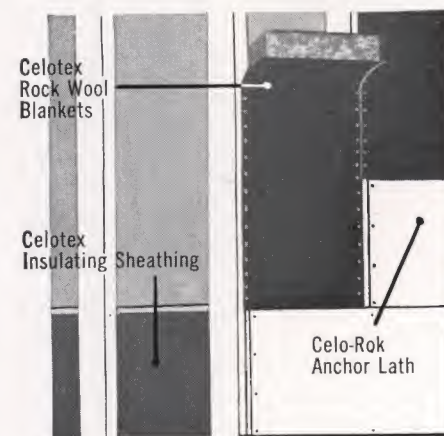

Fig. 2
2. For additional insulation, use Celotex Insulating Sheathing *plus* Celotex Rock Wool Blankets (Fig. 2). While this construction adds another material, and therefore another cost, it gives you extra high insulating efficiency. And it pays lifetime dividends in comfort and fuel savings.